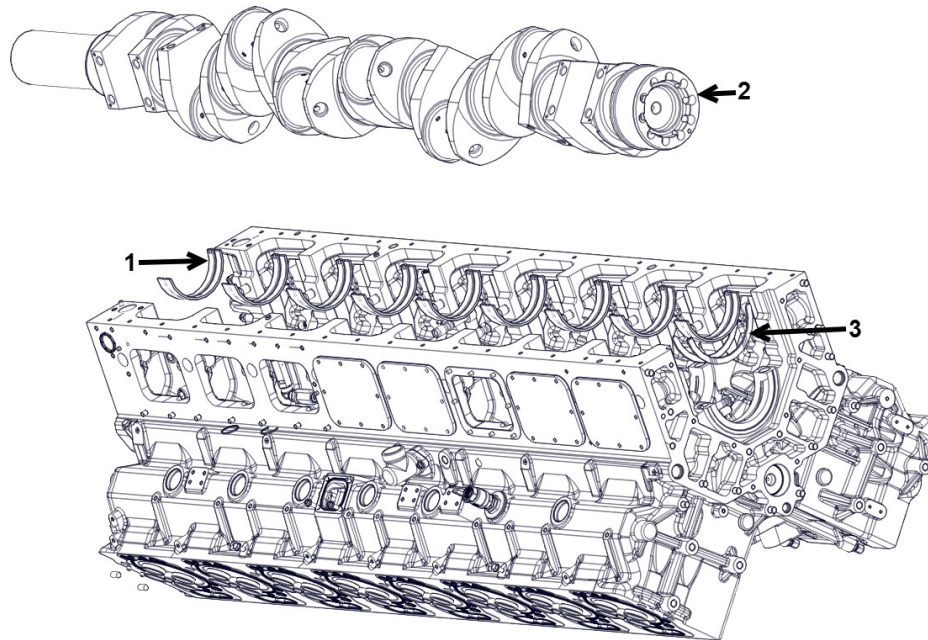

Figure 105.
5. With proper hoisting assistance carefully remove the crankshaft (Figure 105, Item 2) from the engine.
6. Remove the upper bearings (Figure 105, Item 1) and the upper thrust plates (Figure 105, Item 3).